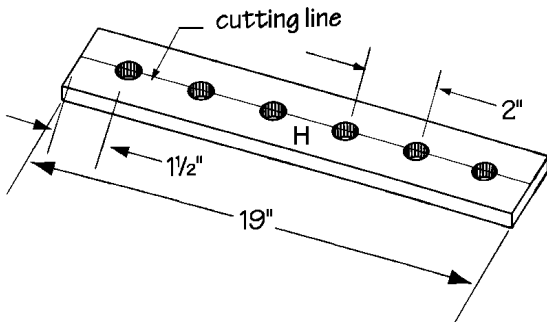

Figure 8
1. The angle of the chaise back is adjusted by placing a wooden rod into your choice of multiple slots in the inner rack. Cut one inner rack (H) from 1 x 4 pine, measuring 19" long.
2. Drill six 1"-diameter holes 2 inches apart along the length of the inner rack (H), beginning 1- $\frac{1}{2}$ " from the end, as shown in *Figure 8*. These holes must be centered width-wise on the 1 x 4.
- Cut the inner rack (H) in half lengthwise along the dotted line shown in *Figure 8*, cutting through the center of all six drilled holes. The resulting two half-pieces will now provide the slots for the chaise back adjustment.